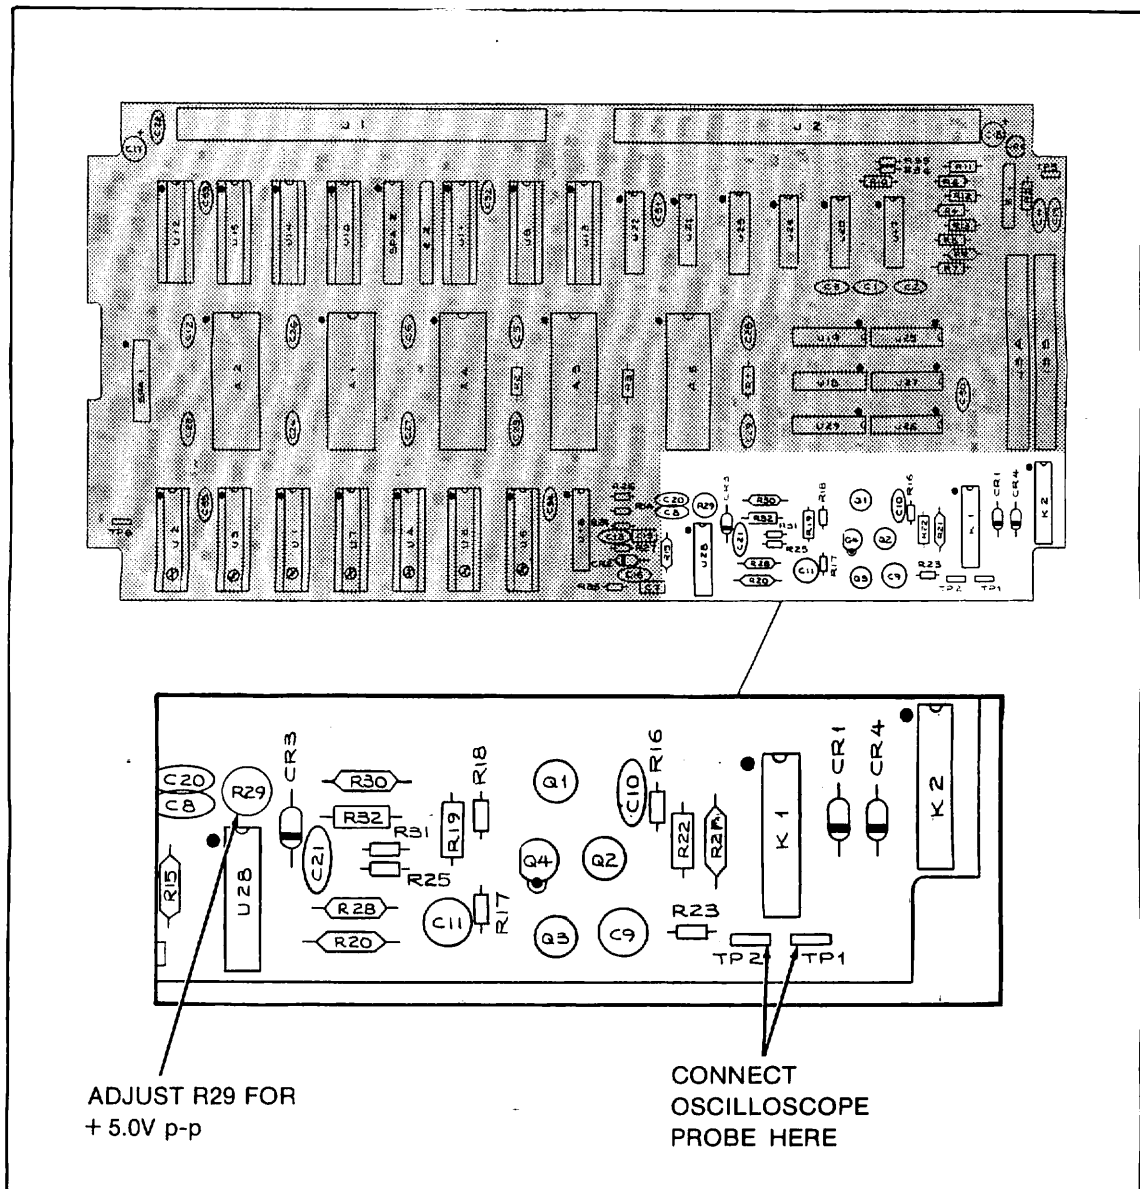

Figure 6-3. Oscillator Circuit Adjustment Location
2. Locate Potentiometer R29 on the Interface PCB assembly (shown in Figure 6-3) and turn R29 fully counter-clockwise.
5. Place an oscilloscope probe as indicated in Figure 6-3 (TP1 or TP2 on the Interface PCB assembly).